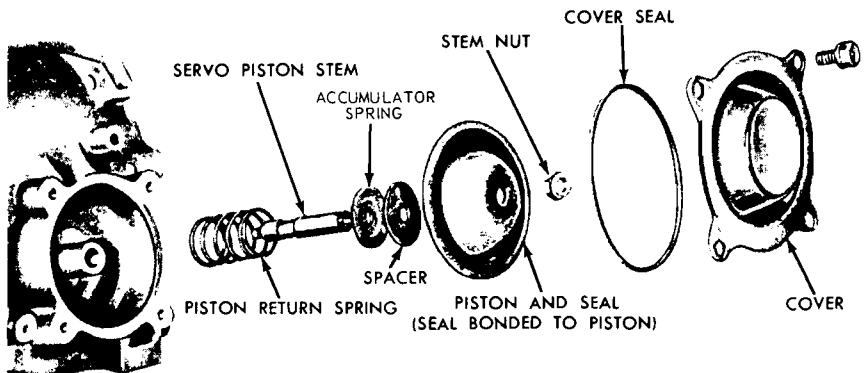

FIG. 56—Low-Reverse Servo Disassembled
2. Remove the servo cover, cover seal, servo piston and piston return spring from the case (Fig. 56).
the spacer and accumulator spring (Fig. 56) is positioned on the piston stem. The crowned side of the spring should face toward the rod.
4. Place the piston return spring in the servo bore of the case. Lubricate the piston seal with clean transmission fluid and install the servo piston (Fig. 56).